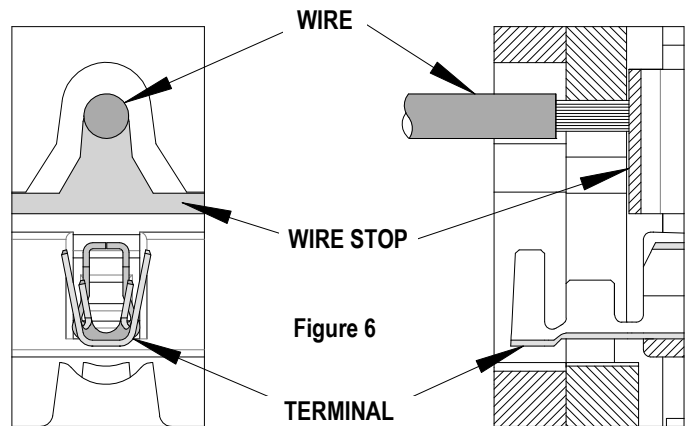

Figure 6
11. On some large O.D. wires, it may not be possible to insert the wire with the tool partially closed. Those wires should be inserted with the hand tool in the open position. Insert the wire above the terminal in the punch and against the wire stop then close the tool. See Figure 6.